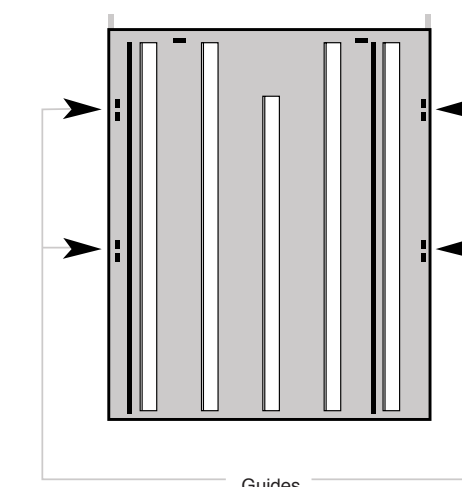

Figure 4
4. Next attach the faceplate (Figure 4). To do so, align the four guides tracks on the sides of the faceplate with the corresponding grooves on the dispenser. Push firmly until the faceplate clicks into place.